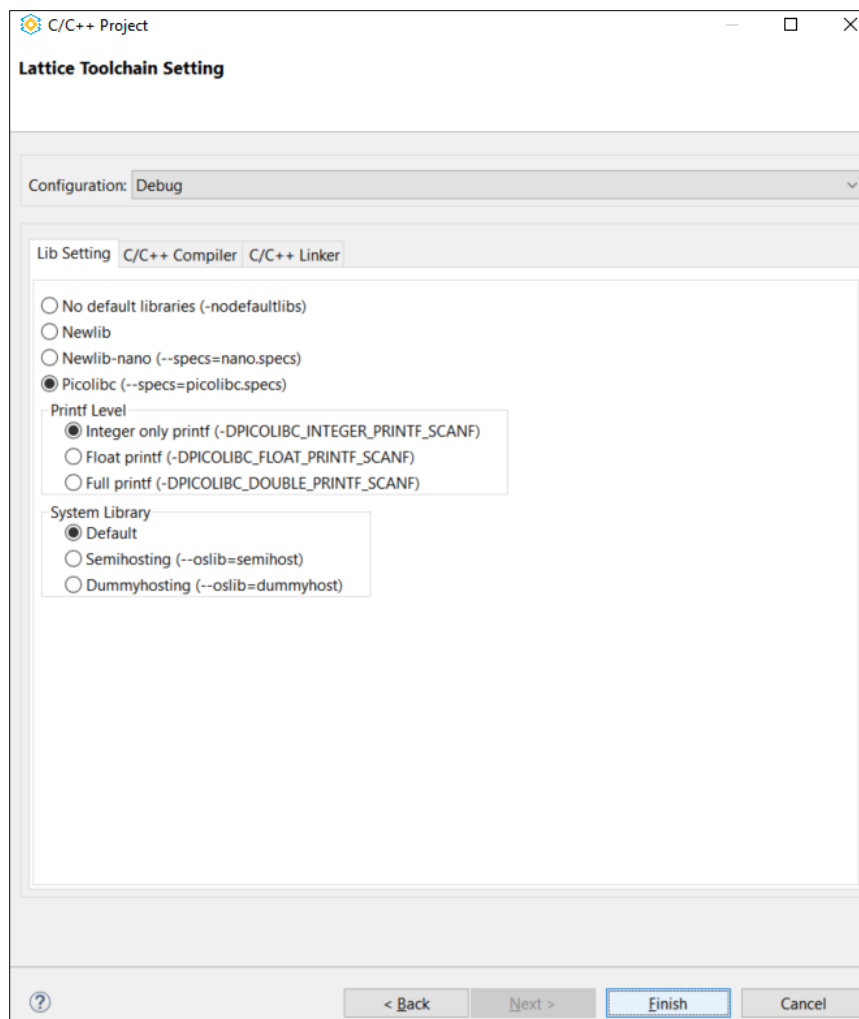

Figure 7.26. C/C++ Lattice Toolchain Setting
- Click **Next**. The Lattice Toolchain is shown in Figure 7.26 and click **Finish**.